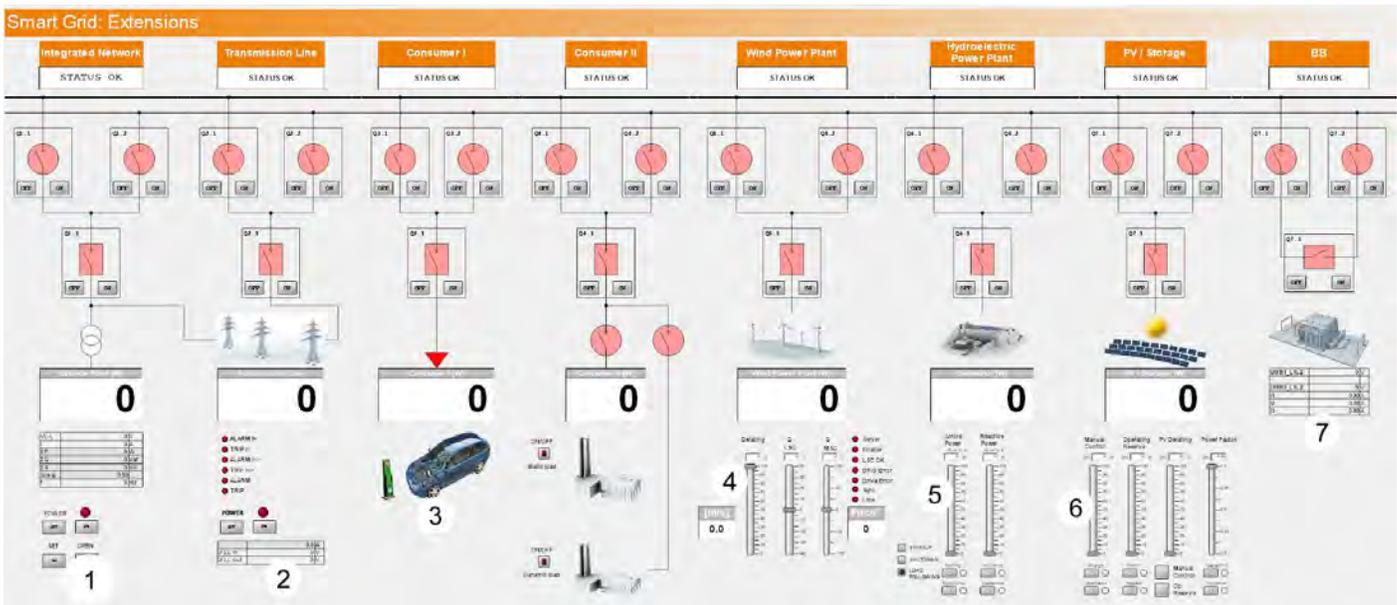

Figure 16:
The SCADA user interface of Figure 16 used for the Smart grid extensions is first explained here:
- The SCADA user interface will look similar to Figure 16.